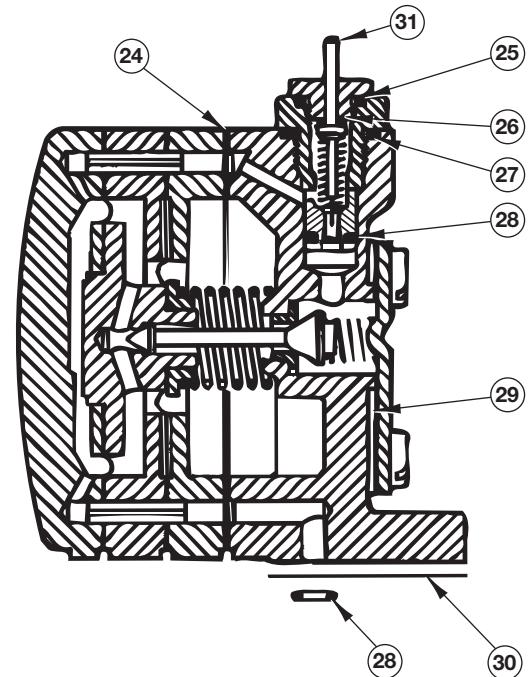

Figure 39
3.3.6.6 Gasket Kit for Relay Assembly 089-8501-014 @ 3–15 psig and 6–30 psig (See Figure 39)